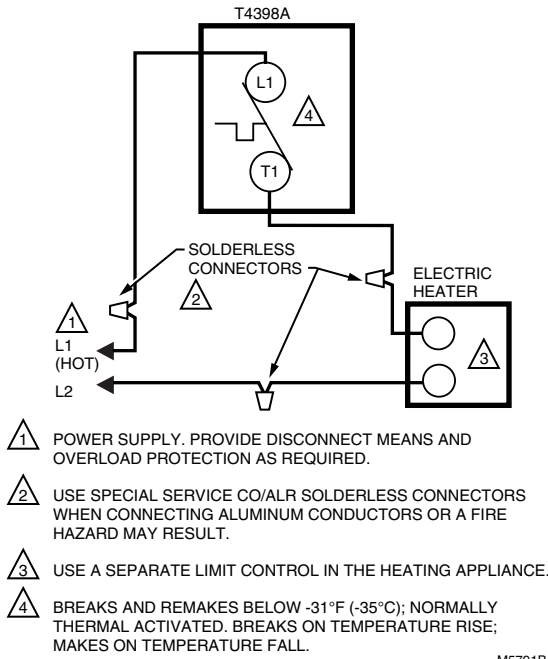

Fig. 2. Typical wiring connections for T4398A.
4. Do not remove T4398 Thermostat Cover. Using wire connectors approved for No. 12 wires, make line voltage connections directly to leadwires on thermostat. See Figs. 2 and 3 for typical wiring connections.
- 3 Do not remove T4398 Thermostat Cover. Using wire connectors approved for No. 12 wires, make line voltage connections directly to leadwires on thermostat. See Figs. 2 and 3 for typical wiring connections.